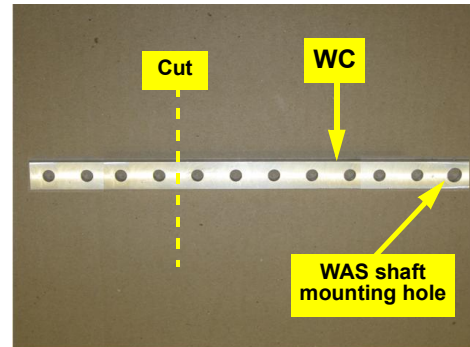

Figure 1b: WAS arm preparation
- b. Cut four holes off the WAS arm **WC** at the opposite end from the WAS shaft mounting hole (Figure 1b).
- b. Locate the steering shaft shield and flange (Figure 1b with inset).
Figure 1b with inset: Console panel removed. Steering shaft shield between pedal mounts